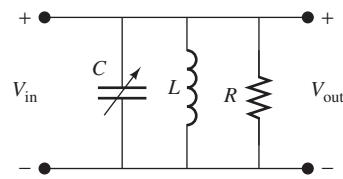

FIGURE P7.40 Circuit for Problem 7.40.
The circuit of an AM radio tuner is shown in Figure P7.40. The frequency range for AM broadcasting is 540 to 1600 kHz. Given that $L = 1\text{ }\mu\text{H}$, what must be the range of C to have the resonant frequency adjustable from one end of the AM band to another?
- 7.41** (H) AM channels are spaced in 10 kHz increments, that is, 540, 550, 1590, and 1600 kHz. The bandwidth of the AM radio tuner must not exceed 10 kHz, in order to suppress the interference of neighboring channels. The circuit of the tuner is shown in Figure P7.40. Find the conditions under which the interference from neighboring AM channels is filtered out.